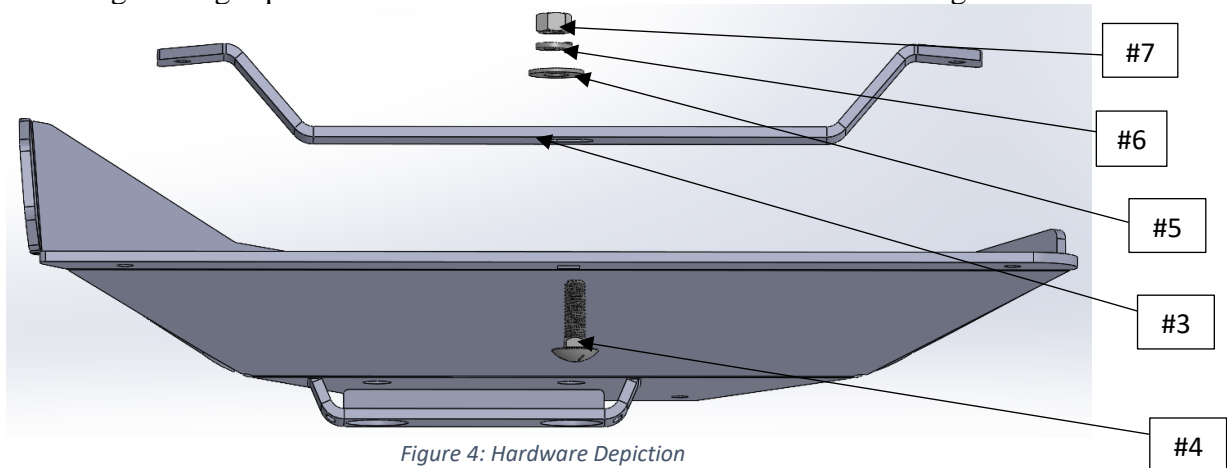

Figure 4: Hardware Depiction
- Collect one of the Bronco A-arm Top Mounts (#3), one 3/8" x 1.25" Carriage Bolts (#4), one 3/8" Washer (#5), one 3/8" Split Washer (#6), and one 3/8" Hex Nut (#7). Install the hardware as depicted in Figure 4.